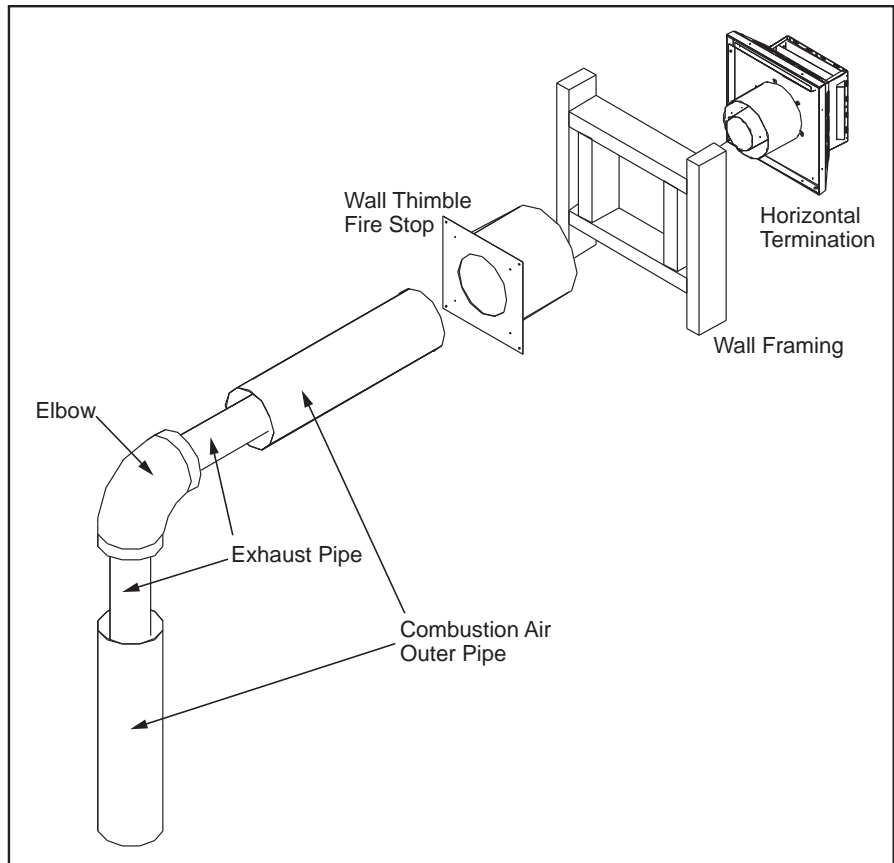

Figure 31. Horizontal Vent Termination
Step 3. With the pipe in the correct position and attached to the fireplace, mark the wall for a **10" (25.4 cm) x 10" (25.4 cm)** square hole (see Figure 31). The center of the hole should match the center line of the horizontal pipe. Cut and frame the hole in the exterior wall where the vent will be terminated. If the wall being penetrated is made of a non-combustible material (i.e. masonry or concrete) a **7" (17.8 cm)** hole is acceptable.